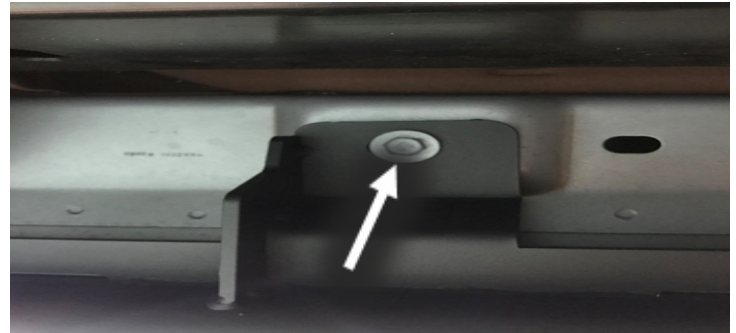

Figure 2
4. With assistance, hold the driver side slider (21964) up to the pinch weld seam and loosely install the four (4) floor pan bolts. (Figure 2)
9. Using a 13mm socket wrench, fully tighten down the two (4) OEM floor pan bolts that were removed in step 1. (Figure 2)